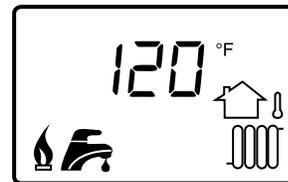

Figure 15-8: Home Screen While Running
7. If successful ignition, display will show flame icon (Figure 15-8).